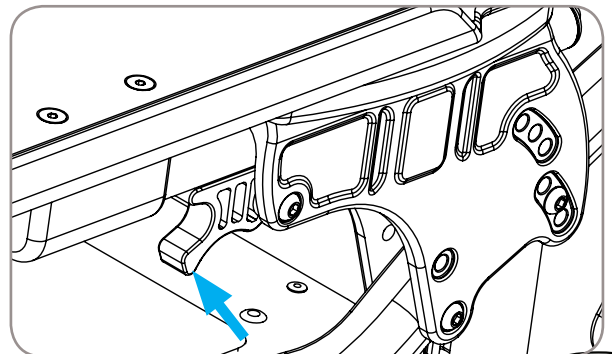

Figure 29
3. Swing left and right tray cams upward to lock in place. Reference Figure 29.